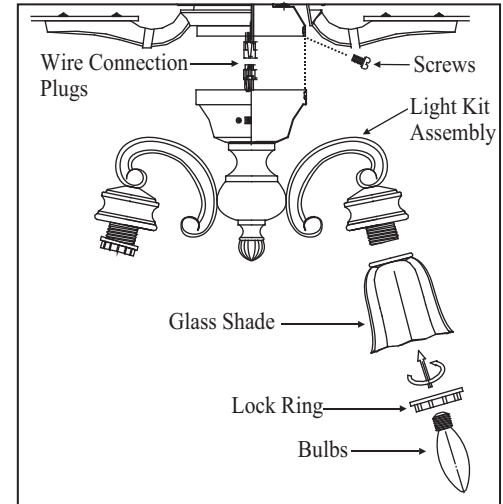

Figure 19
5. Carefully push all wires back into the switch housing, then install the light kit assembly onto the mounting plate with 3 screws provided. Be sure to tighten all screws. (Fig. 19)
6. Remove the lock ring from the socket by turning the lock ring counter-clockwise until it unlocks. Insert the glass into the glass holder and turn the lock ring clockwise to tighten the glass. Repeat for the remaining glass. (Fig. 19)